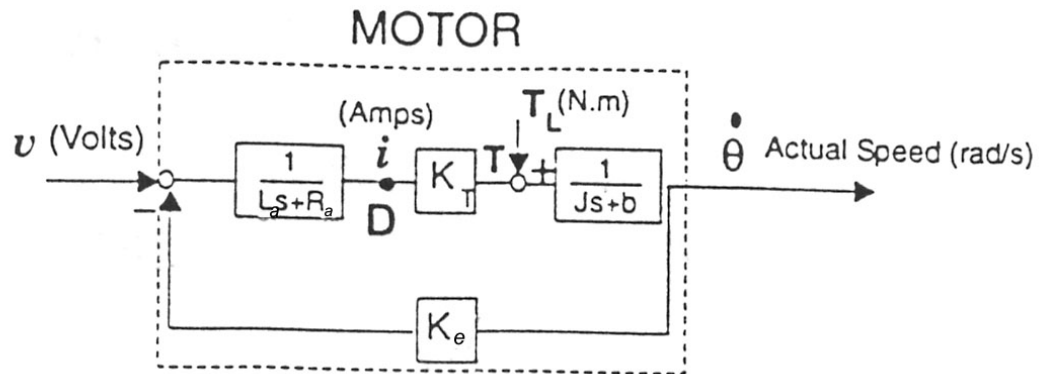
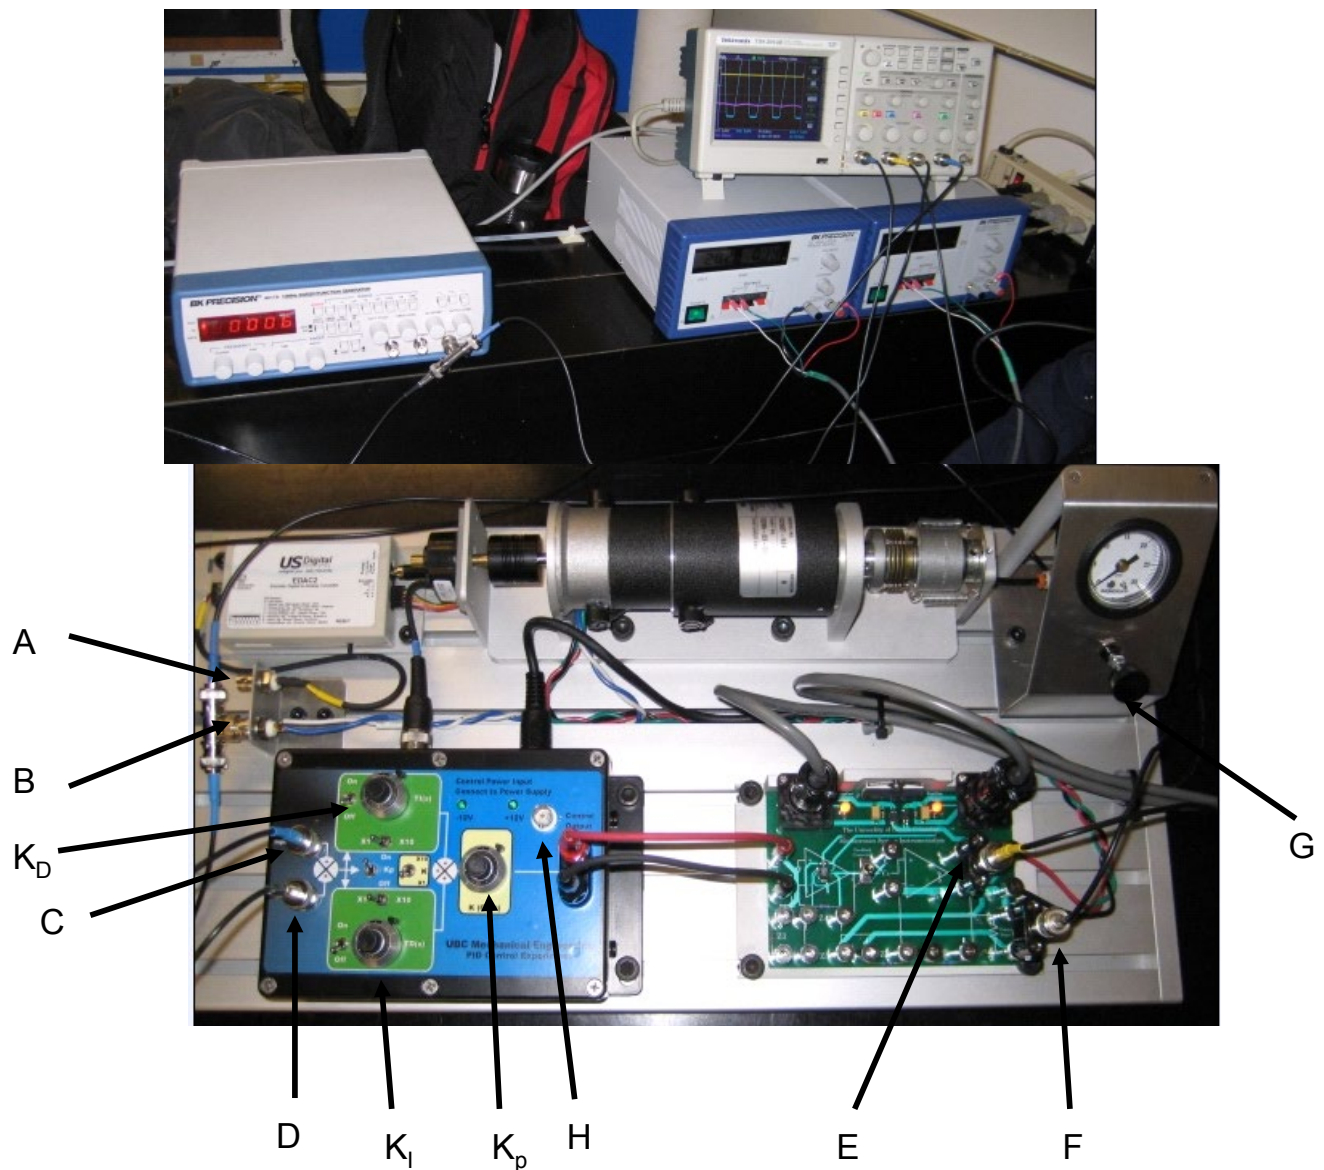

Figure 1. Block Diagram of the DC Motor
Figure 2. View of the Front Panel (same as Figure 5 in Lab 3)
where L and R are inductance and resistance of the armature respectively. Figure 1 shows a block diagram for the DC motor.
Hint: it should match the graphical description given in Figure 1.
The experimental set-up is the same as the one used for Lab 3 Experiment A. The front panel of the apparatus is shown on Figure 2. Open loop response will be analyzed in this experiment. The block diagram for the open loop system is shown in Figure 1.
1. Build an open loop system and connect the cables for monitoring the signals according to Figure 2.
- Proportional Control (K) - ON - x1
4. Set-up the oscilloscope in order to monitor the operation of the plant. Refer to Figure 2 to connect the required leads to the oscilloscope. Using the oscilloscope, you will want to measure the input signal (Channel 1) amplitude of motor voltage (Channel 4), motor current (Ch. 3), and motor speed (tachometer voltage connected to Ch. 2).